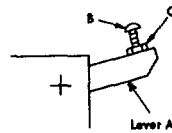
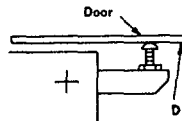

Figure 1
Figure 2
1. When the door is closed, Lever A, Figure 1, is approximately parallel with surface D, Figure 2.